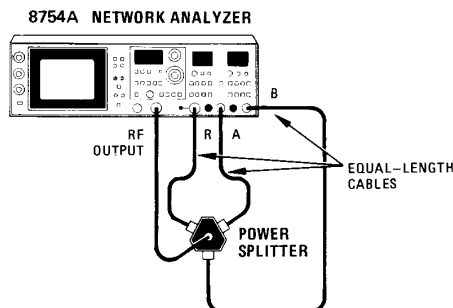

Figure 4-22. Phase Display Accuracy Test Setup
1. Connect equipment as shown in Figure 4-22.
- SWEEP WIDTH MHz 0 (CW)